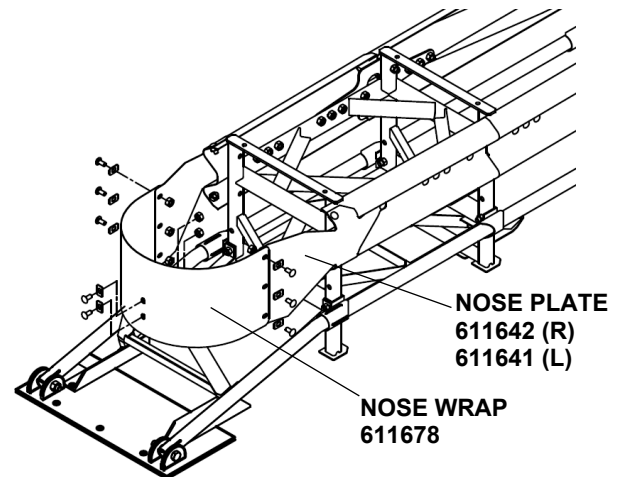

Figure 26
- b. Bolt the center of the Nose Wrap to the Trigger Frame with Rail Bolts, washers, and nuts (Figure 26).
- c. Bolt the Nose Wrap to one of the Nose Plates and then bring it around the other Nose Plate and fasten with Rail Bolts, washers, and nuts (Figure 26).